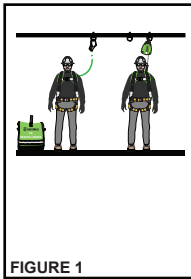
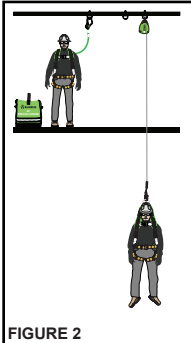

FIGURE 1
FIGURE 2
Fall Clearance: There must be sufficient clearance below the anchorage connector to arrest a fall before the user strikes the ground or an obstruction. When calculating fall clearance, account for a MINIMUM 2' safety factor, deceleration distance, user height, length of lanyard/SRL, and all other applicable factors (See Figure 1).
Swing Falls: Prior to installation or use, make considerations for eliminating or minimizing all swing fall hazards. Swing falls occur when the anchor is not directly above the location where a fall occurs. Always work as close to in line with the anchor point as possible. Swing falls significantly increase the likelihood of serious injury or death in the event of a fall (See Figure 2).
1. The SafeWaze Rescue Ladder should be stored in a prominent location that is quickly accessible and in close proximity to individuals working at heights. All employees must be trained in the location, and proper use of, the Rescue Ladder (See Figure 1 and Figure 2).